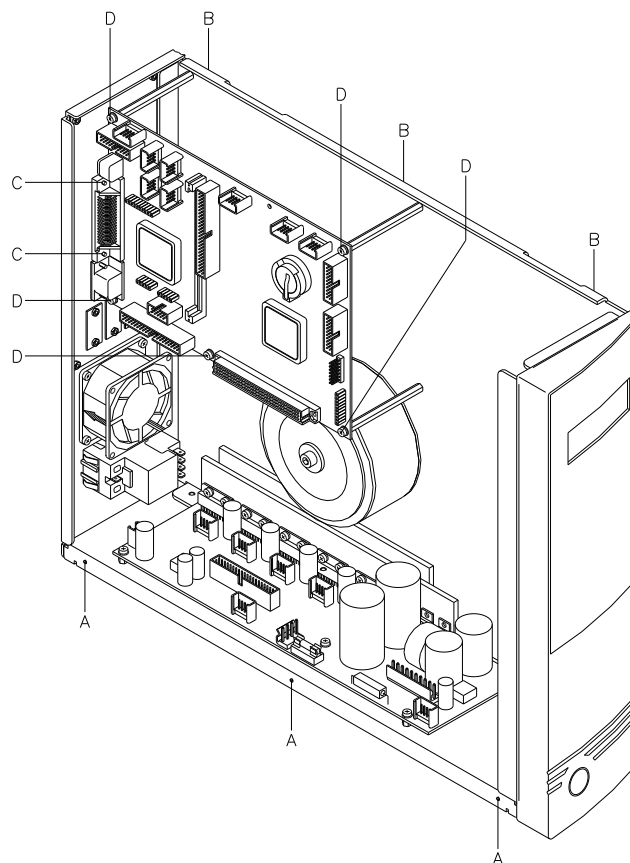

Figure 11
2. Secure the PCB with the five fixing screws (D, Figure 11).
3. Fasten the two fixing screws (C, Figure 11) of the Centronics interface.
6. Install again the left printer cover with the screws (A + B, Figure 11).